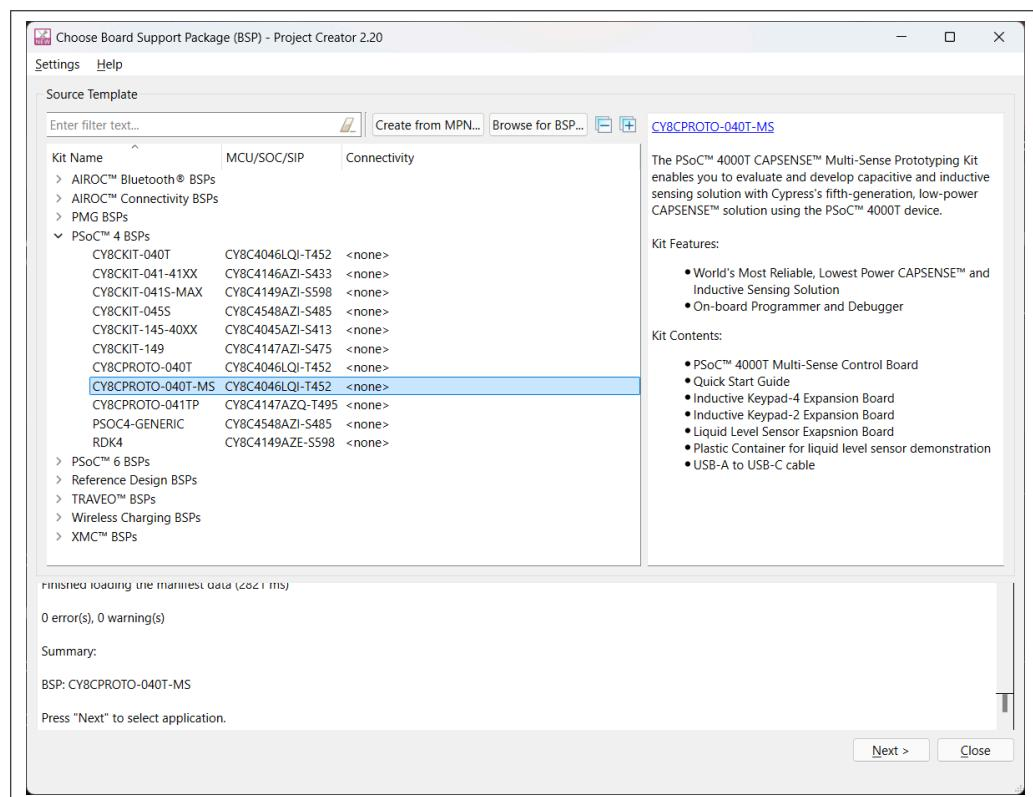

Figure 15 **Creating a new application: Choose Board Support Package**
- c.** Select **CY8CPROTO-040T-MS**, and click **Next**, as shown in Figure 15